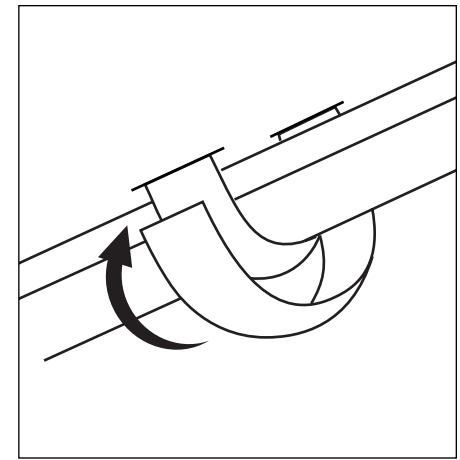

Fig. 16
6. Wrap all velcro straps on canopy around canopy frame and secure. (Fig. 16)